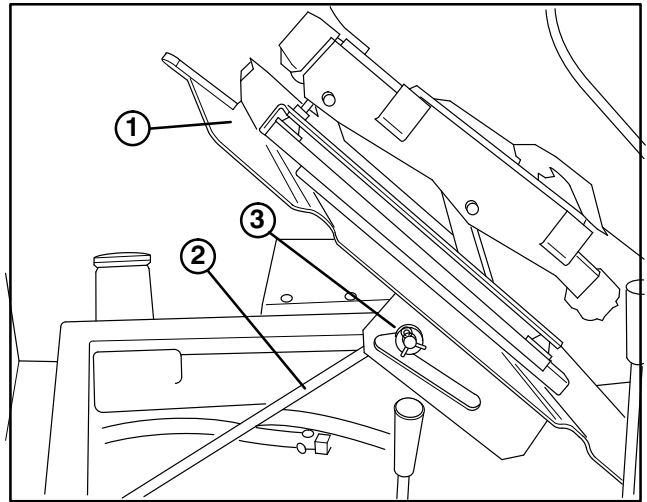

Figure 4
4. Hold mounting plate in upright position with support rod (Fig. 4).
3. Hold mounting plate in upright position with support rod (Fig. 4).
1. Remove (2) 1/2–13 x 1–1/4" lg. capscrews, 1/2" flatwashers, 1/2" lockwashers and 1/2–13 nuts secured to mounting brackets on each side of machine and (2) 1/2–13 x 1–1/4" lg. and (2) 1/2–13 x 3–1/2" lg. capscrews, (2) 1/2" flatwashers (2) 1/2" lockwashers and (2) 1/2–13 nuts secured to each leg of ROPS frame.
3. Secure each side of roll bar to mounting brackets with capscrews, flatwashers and lockwashers previously removed (Fig. 4). Torque fasteners to 50-60 ft–lbs.